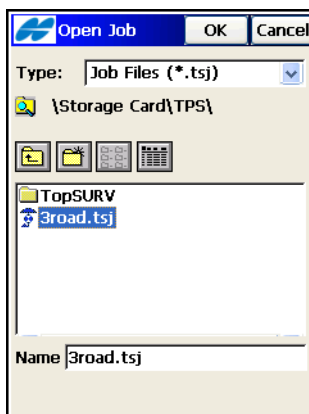

Figure 1-4. Open a New Job
- **Browse** – press to display browse directories to open a job from a remote directory. Highlight the file and press **OK** (Figure 1-4).
Within a menu option, the title bar displays the Help Icon, the name of the open screen, and any system buttons (e.g., **OK**, **Cancel**, **Finish**) required for various operations (Figure 1-4 on page 1-3).